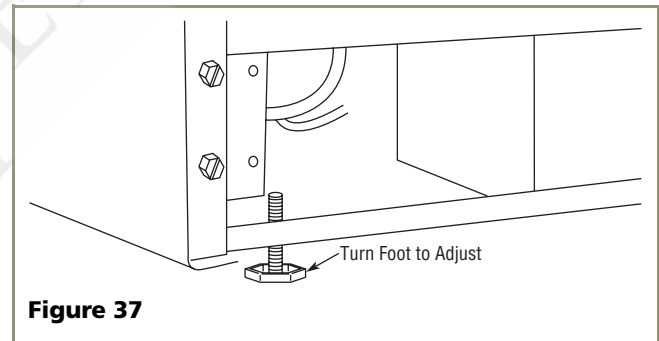

Figure 37
2. If the ice maker is not level, adjust the feet on the corners of the unit as necessary (see **Figure 37**).